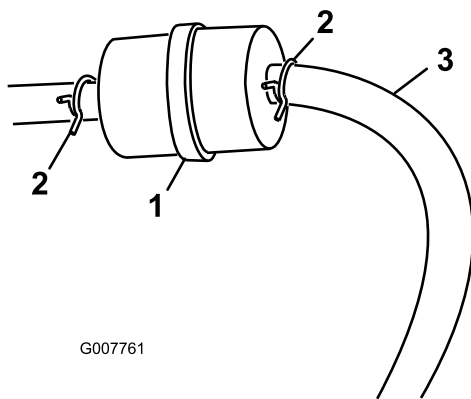

Figure 28
3. Squeeze the ends of the hose clamps together and slide them away from the filter (Figure 28).
5. Install a new filter and move the hose clamps close to the filter (Figure 28).
3. Loosen the hose clamp at the fuel filter and slide it up the fuel line away from the fuel filter (Figure 28).
4. Disconnect the fuel line from the fuel filter (Figure 28).
Note: Allow the fuel to drain into a fuel container or drain pan (Figure 28).
5. Install the fuel line onto the fuel filter. Slide the hose clamp close to the fuel filter to secure the fuel line (Figure 28).